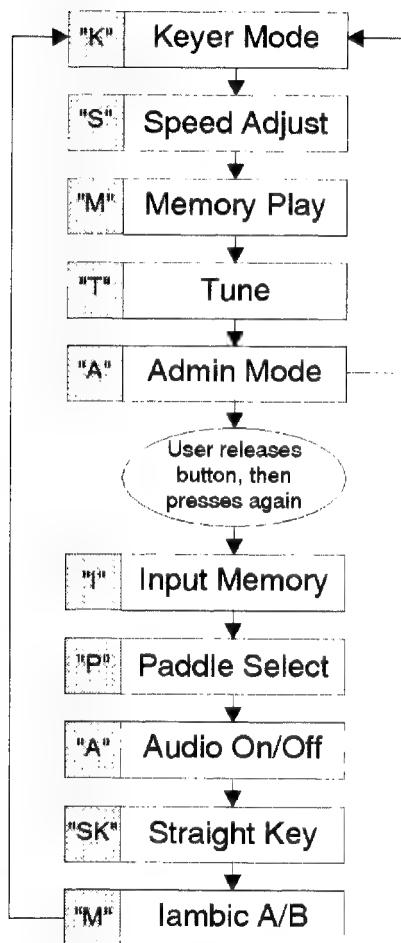

Fig. 1
The circuit in Fig. 1 is a modified version of the ARRL circuit in Ref. 1. The circuit of Fig. 2 is based on the ARRL circuit of Ref. 1 and the Drew Diamond circuit of Ref. 2.
Figure 1 shows the command sequence for the TiCK-2. Note that if you press and hold the push-button, the chip cycles from keyer mode through (S) speed adjust, (M) memory play, (T) tune, (A) admin mode and then back to the keyer. However, if the push-button is released and pressed again while in admin mode, the chip will cycle through a subset of commands which include (I) input memory, (P) paddle select, (A) audio on/off, (SK) straight key, (M) iambic mode A or B and finally back to the keyer mode. The TiCK manual describes these commands in greater detail.